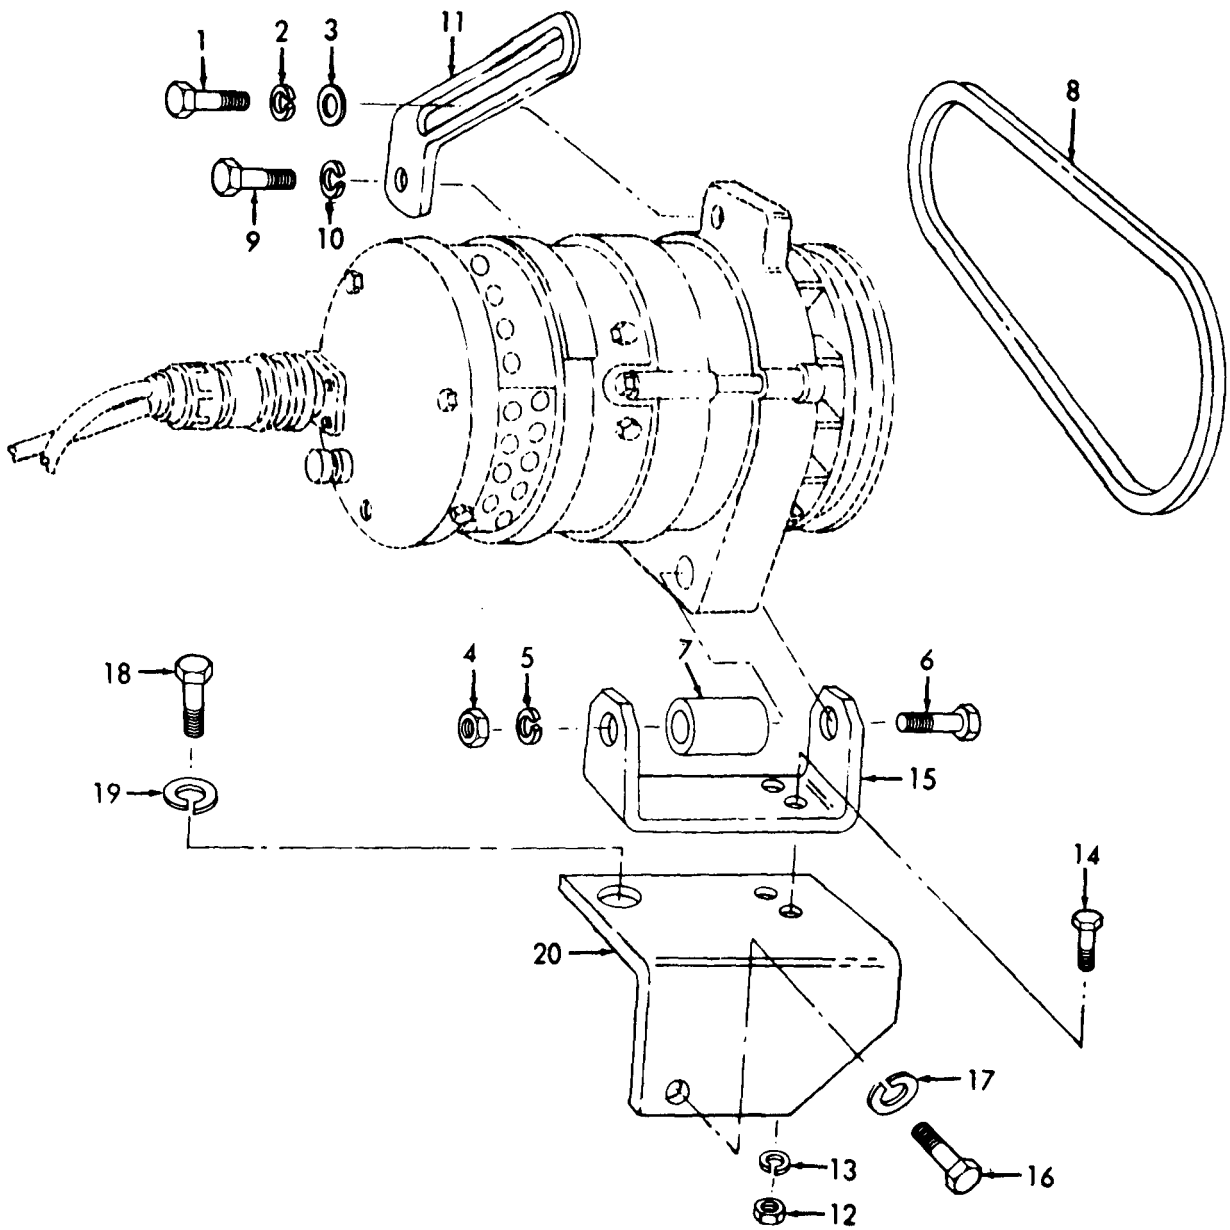
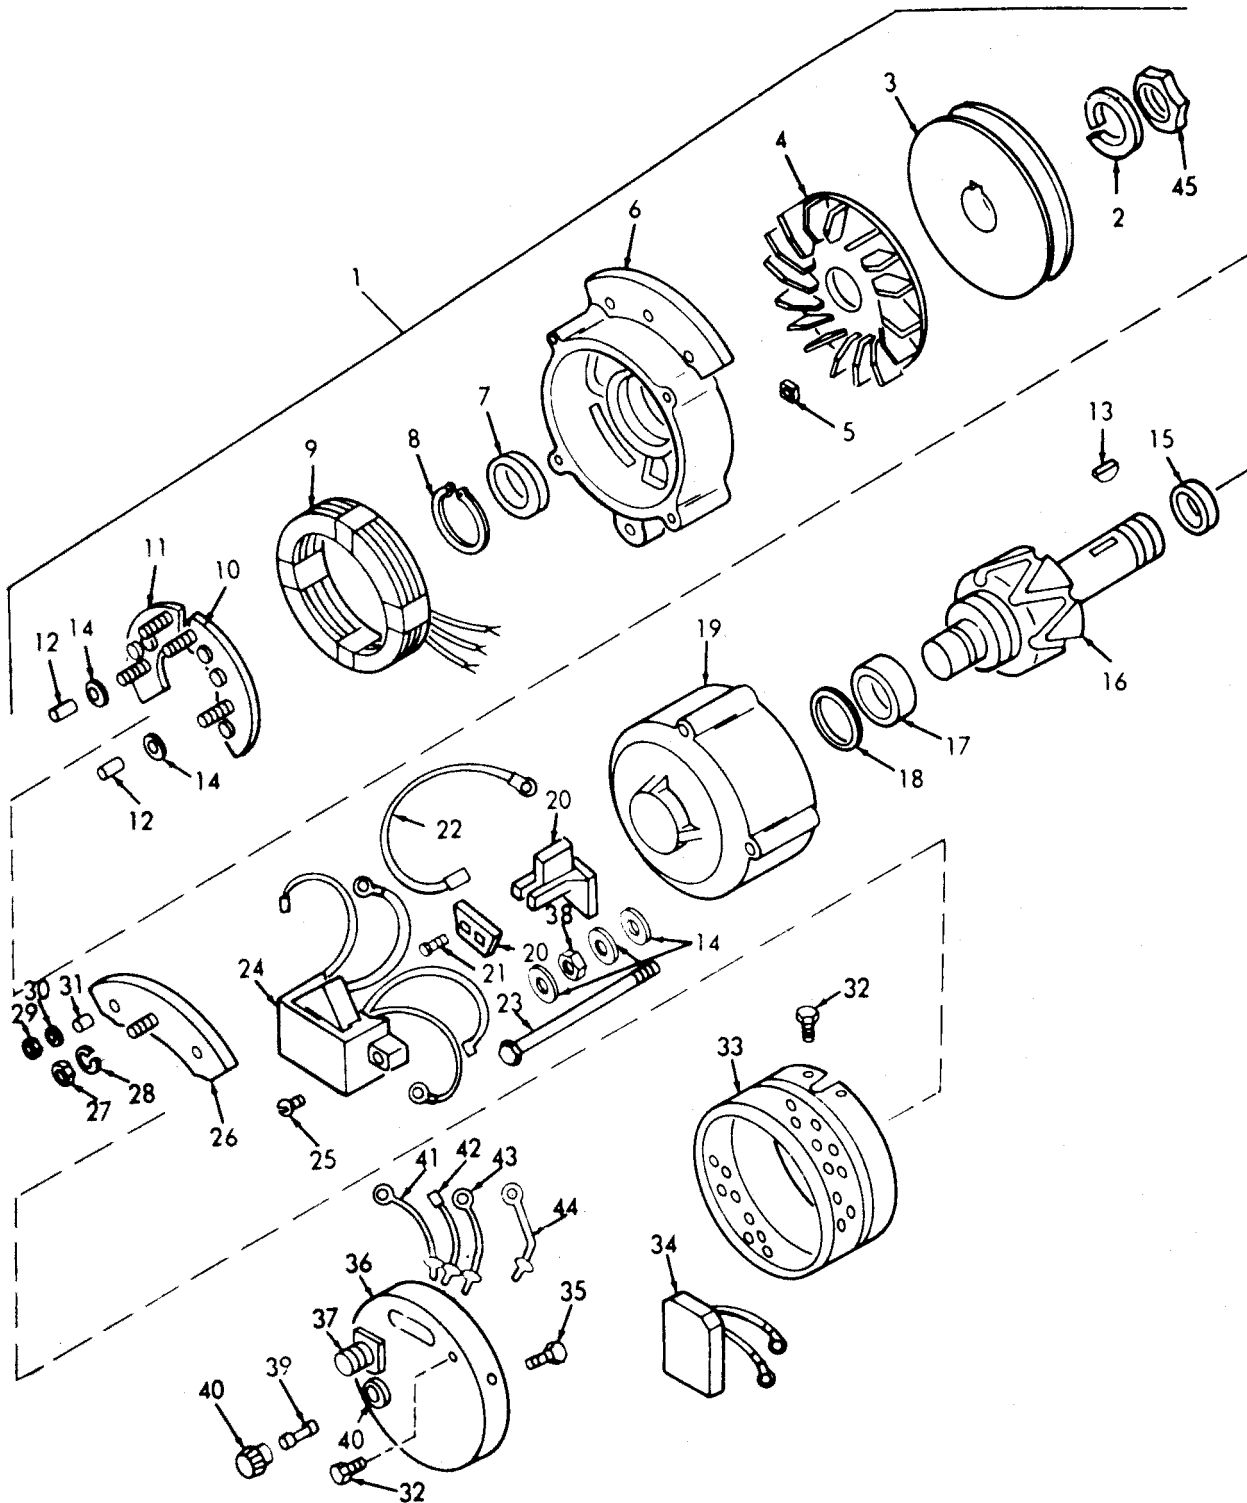

Figure 7-5. Alternator, Removal and Installation.
Figure 7-6. Alternator, Disassembly and Assembly.
a. Removal (Refer to figure 7-5).
- (1) Tag and disconnect the electrical connection.
- (2) Loosen the mounting hardware and remove the V-belt (8).
- (3) Remove adjusting arm screw (1) and washers (2 and 3).
- (4) Remove the mounting bracket screw (6), spacer (7), washers (5), and nut (4).
b. Disassembly (Refer to figure 7-6).
- (1) Remove screw (35), and screw (32).
- (2) Ease cover (36) away from alternator.
- (3) Tag and disconnect wiring. Reinstall nuts and studs.
- (4) Remove cover (36) and OVV absorber (34).
- (5) If necessary, remove fuse (39), fuseholder (4), connector (37) and terminal leads (41 through 44).
- (6) Remove screw (32) and housing and shield (33).
LEGEND FOR FIGURE 7-5:
## LEGEND FOR FIGURE 7-6:
Refer to figure 7-6 to assemble the alternator in reverse